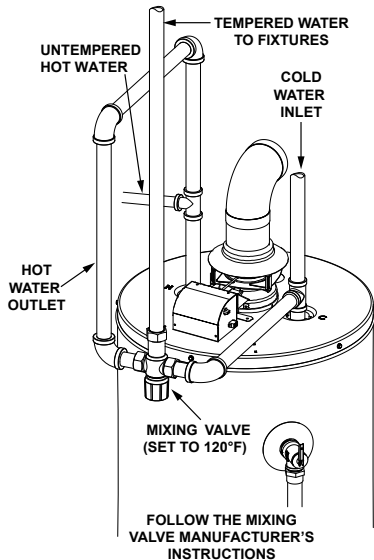

FIGURE 17.
3. The manufacturer of this water heater recommends installing a mixing valve or an anti-scald device in the domestic hot water line as shown in Figure 17. These valves reduce the point-of-use temperature of the water by mixing cold and hot water and are readily available for use.
For protection against excessive pressures and temperatures, a temperature and pressure relief valve must be installed in the opening marked “T & P RELIEF VALVE” (see Figure 17). This valve must be design certified by a nationally recognized testing laboratory that maintains periodic inspection of the production of listed equipment or materials as meeting the requirements for Relief Valves for Hot Water Supply Systems, ANSI Z21.22. The function of the temperature and pressure relief valve is to discharge water in large quantities in the event of excessive temperature or pressure developing in the water heater. The valve’s relief pressure must not exceed the working pressure of the water heater as stated on the rating plate.